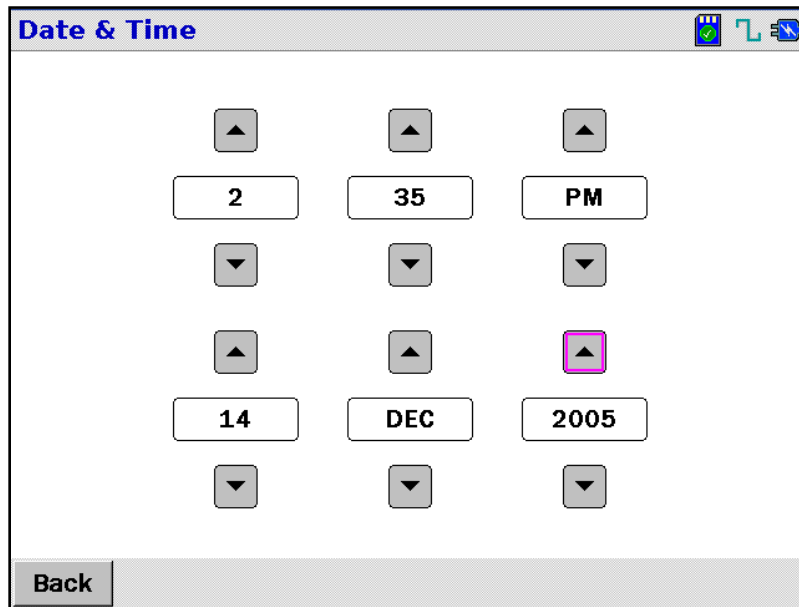

FIGURE 31 - DATE AND TIME SCREEN
2. Touch the ▼ or ▲ icons above or below the field of interest (e.g. Dec. in Figure 31) to scroll to the desired value. The range for the *Year* field is 2005 to 2025.